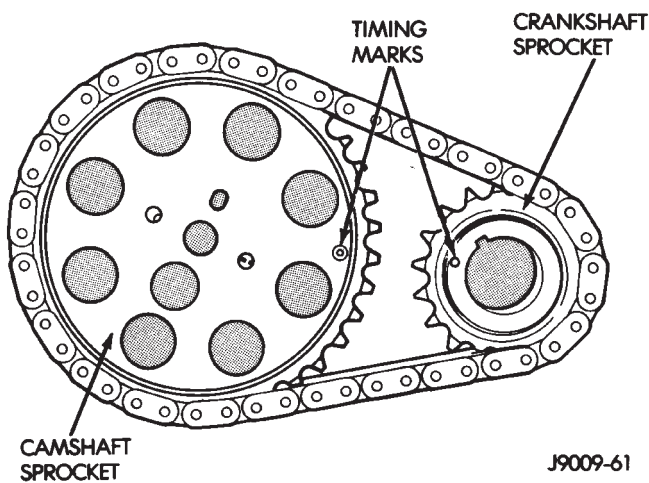

Fig. 41 Crankshaft—Camshaft Alignment—Typical
- (1) Disconnect negative cable from battery.
- (2) Remove the fan and shroud.
- (3) Remove the serpentine drive belt.
- (4) Remove the crankshaft vibration damper.
- (5) Remove the timing case cover.
- (6) Rotate crankshaft until the "0" timing mark is closest to and on the center line with camshaft sprocket timing mark (Fig. 41).